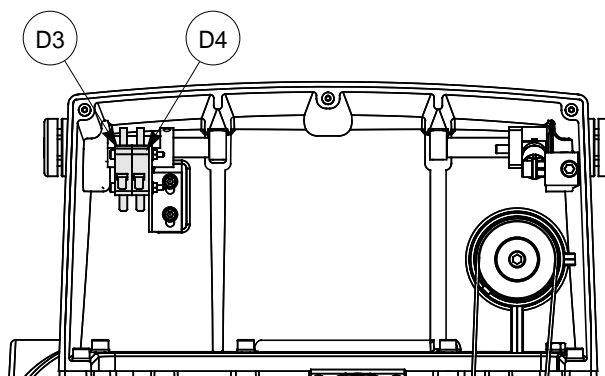

Fig. 43
cutter motor not working:	a) the closed protective shield is not making proper contact with the safety microswitch (fig. 43).
Protective shield is closed but the display reads "close shield"	a) the closed protective shield is not making proper contact with the microswitch (D3) (fig. 43)
b) cutter microswitch on protective cover triggered or disconnected (D4) (fig. 43).